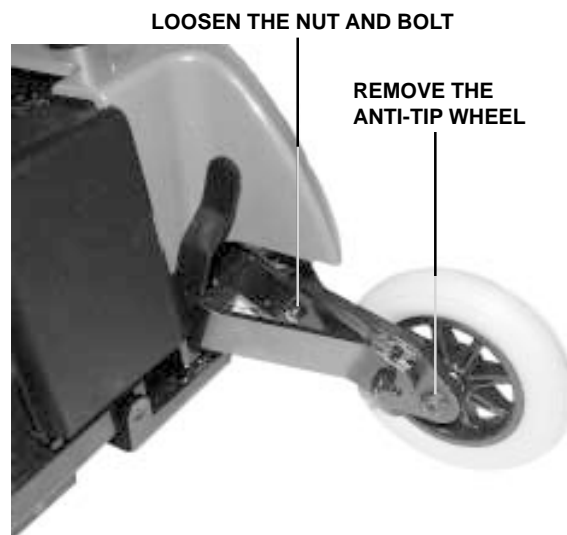

Figure 14. Anti-Tip Wheel Adjustment
2. Use a 5/32-in. hex key and a 7/16-in. socket to loosen the nut and bolt that fasten the anti-tip spring to the anti-tip arm. See figure 14.